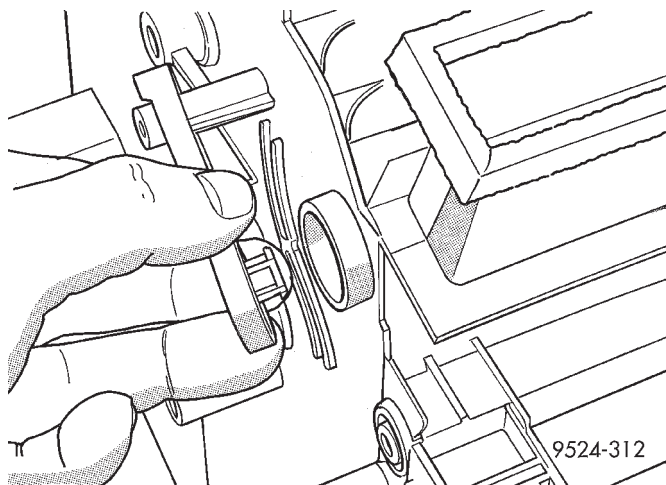
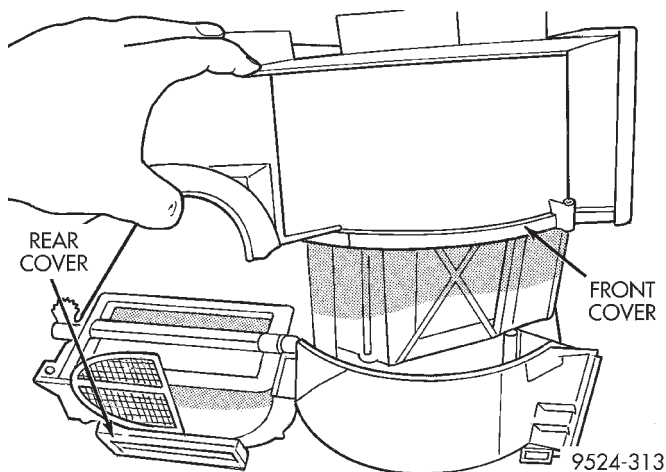

**Fig. 105 Defrost Door Lever Link**
**Fig. 106 Front And Rear Housing Halves**
(34) Unsnap defrost door lever link from housing (Fig. 105).
(35) Remove defrost door seal from housing.
(36) Remove A/C housing rear cover half from front half (Fig. 106).